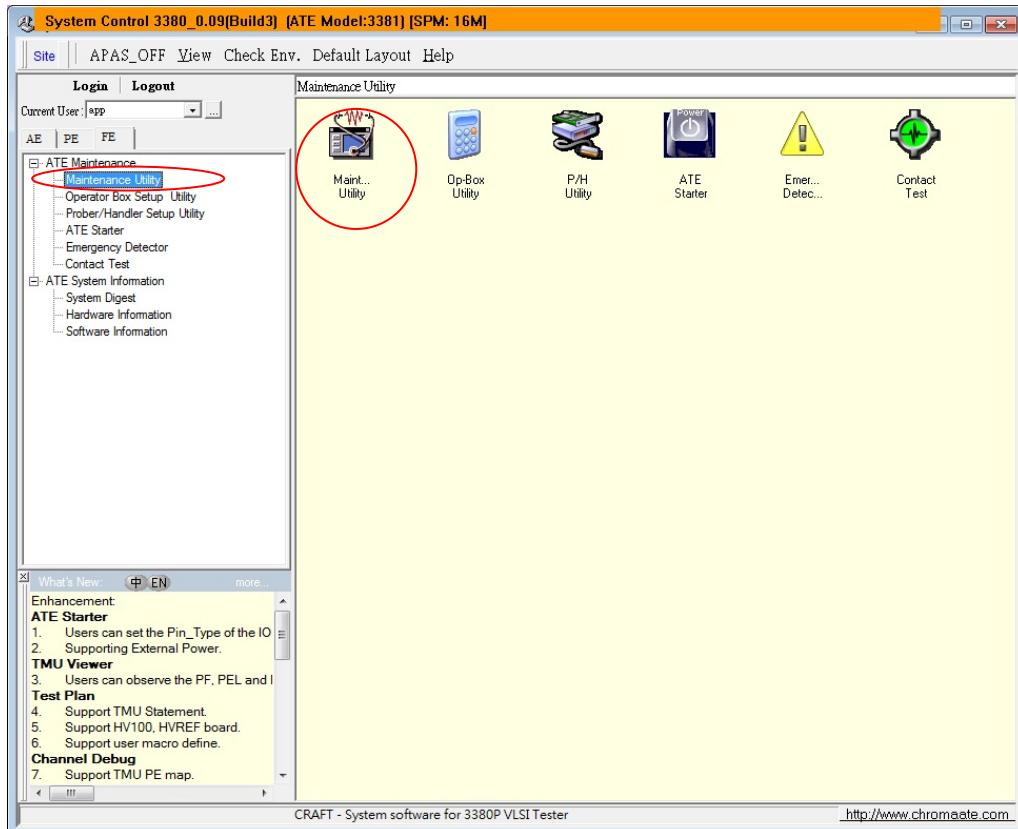
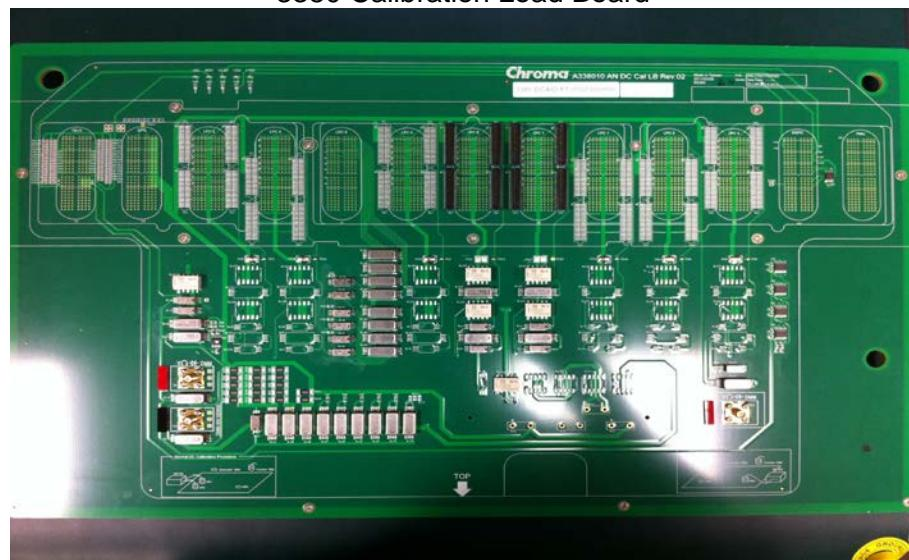
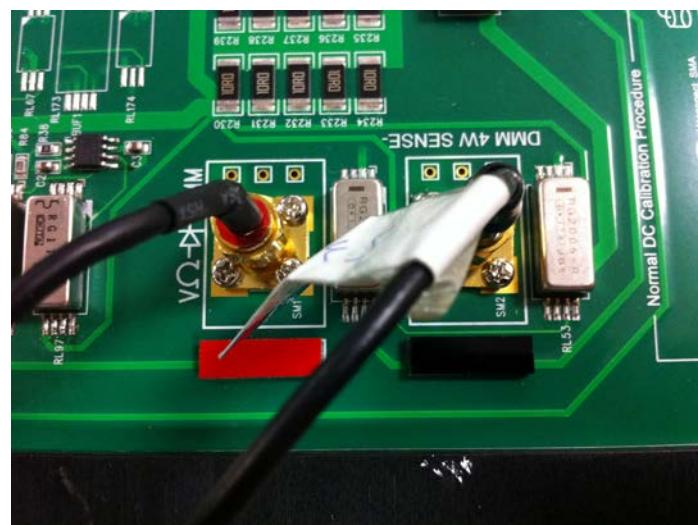

Figure 3-1 Maintenance Window on CRAFT
Figure 3-11 3380P Calibration Load Board
Figure 3-12 Calibration Load Board and Source Meter Connection
- (1) Double click the Maintenance Utility icon in the System Control window or click the string of Maintenance Utility from the tree window to start it (see Figure 3-1).
3380/3380P test system requires a calibration board mounted on the test head for DC calibration (see *Figure 3-11* and *Figure 3-12*).
- (1) Connect the calibration load board with Source Meter via a 4-wire test lead (refer to *Figure 3-12*).
- (2) Connect the test system computer with Source Meter by a GPIB cable.
- (3) To perform calibration, CRAFT must be started (refer to *Operation Manual chapter 1*) and maintenance utility icon is selected (see *Figure 3-1*).